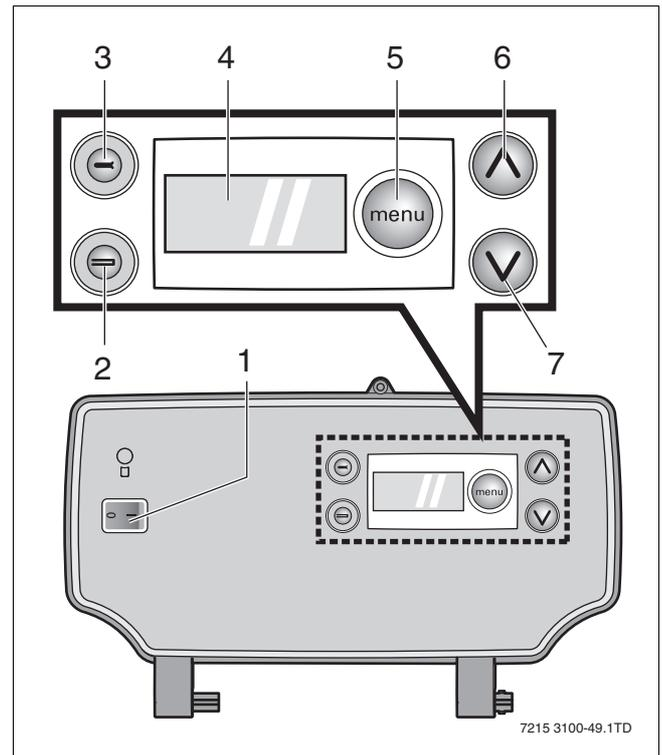
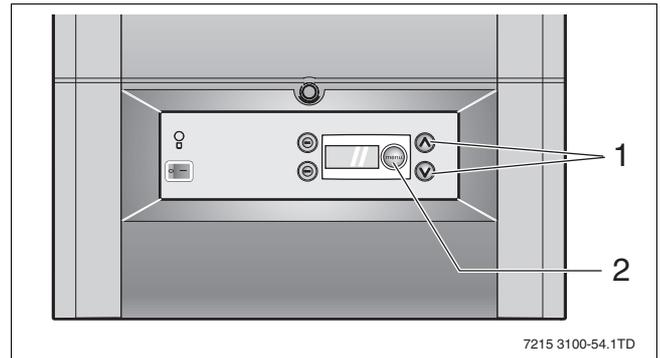

Fig. 49 DBA
Fig. 54 DBA – adjusting arrows
1. Mains switch (→ fig. 49)
2. Reset button (→ fig. 49)
3. Service button (→ fig. 49)
4. Display (→ fig. 49)
5. Menu button  (→ fig. 49)
6. and 7. Up  and Down  keys (→ fig. 49)
- Press  button twice then adjust the DHW temperature to the desired temperature (40 °C - 60 °C) using the  and  keys (→ fig. 54, item 1).
- Press the  button (→ fig. 54, item 2) three times. The current setting blinks.
- Press  button (→ fig. 54, item 2) four times then adjust the flow temperature to the desired temperature (30 °C – 80 °C) using the  and  keys (→ fig. 49, item 1). Factory setting is 80 °C.